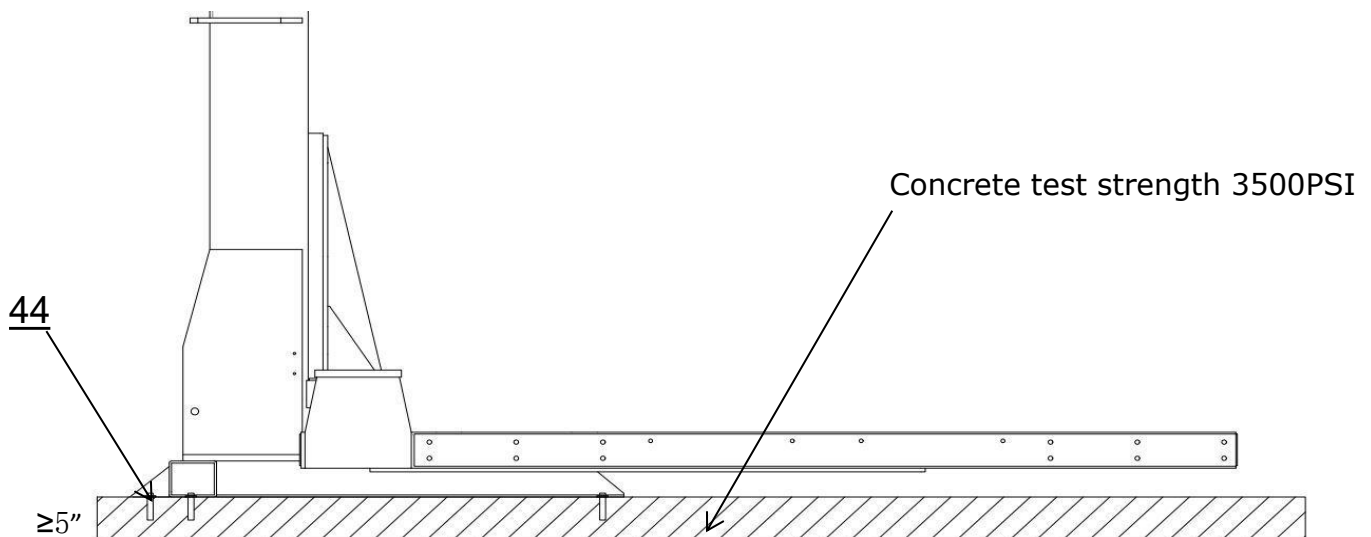

Fig.5
C. SPECIFICATIONS OF CONCRETE (See Fig. 5)